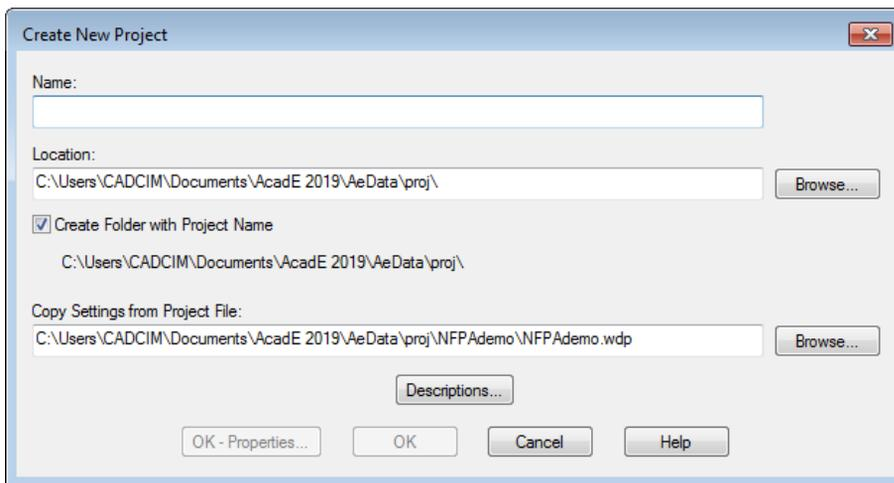

Figure 2-56 The Create New Project dialog box
3. In the **PROJECT MANAGER**, make sure the **Projects** tab is chosen. Next, choose the **New Project** button; the **Create New Project** dialog box is displayed, as shown in Figure 2-56.